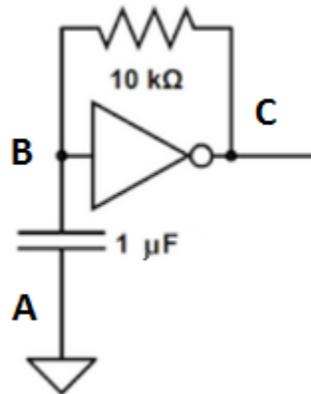

Figure 1: Circuit schematic of a simple oscillator.
- ✓ Construct circuit shown in **Figure** (the circuit schematic is in Figure 1).